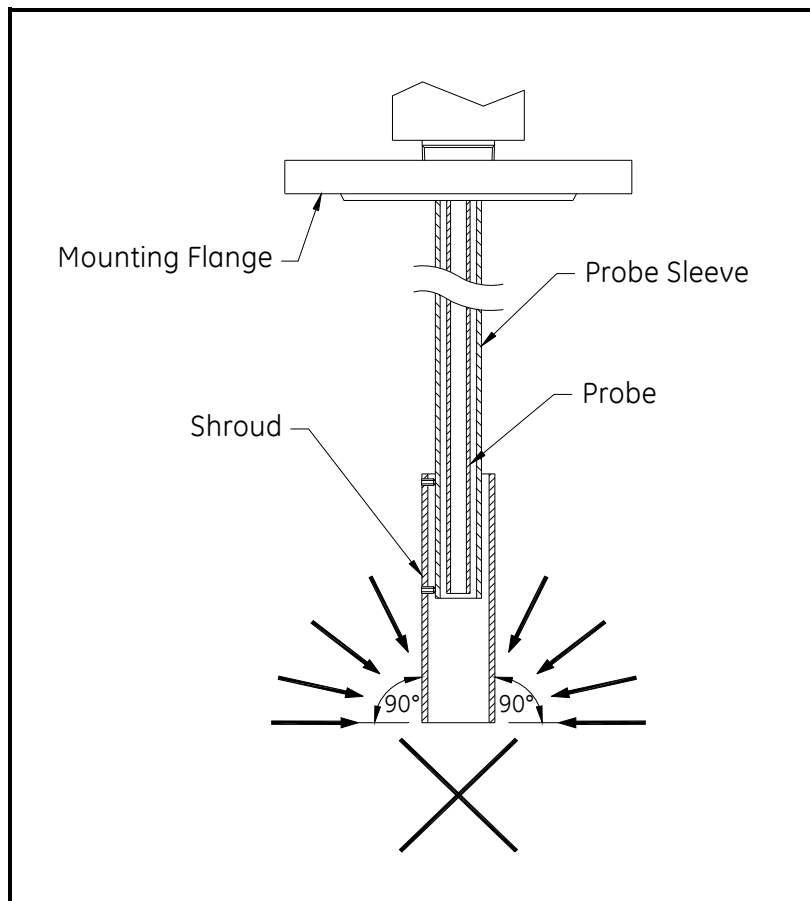

Figure 12: Permitted Gas Flow Angles
Included as part of the analyzer are the 1/4" NPT probe and the 3/4" NPT probe sleeve. The probe and probe sleeve carry the sample gas into and out of the analyzer (see Figure 12). 300V(X) units intended for operation at temperatures below 950°C (1,742°F) include a 1-1/4" shroud attached to the end of the probe sleeve.
WARNING! Gas flow must be perpendicular to the probe sleeve or, at worst, angled downward and away from the open end of the probe sleeve. Never angle the gas flow into the open end of the probe sleeve (see Figure 12).
Ideally, the probe and probe sleeve should extend approximately 1 ft (30.5 cm) into the flue. Also, the flue gas flow direction should be perpendicular to the probe sleeve or, at worst, angled downward and away from the open end of the probe sleeve (see Figure 12 on page 14).